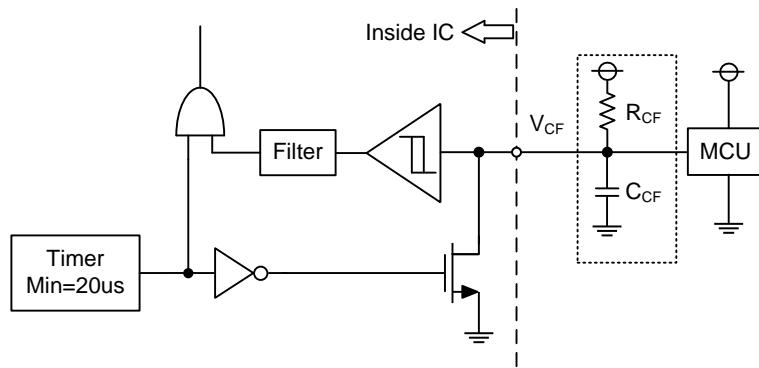

Figure 5. V_{CF} Output Circuit
- (1) If the control GND is connected with the power GND by common broad pattern, it may cause malfunction by power GND fluctuation. It is recommended to connect the control GND and power GND at a single point (N1), near the terminal of the shunt resistor.
- (2) There are two COM pins in the IPM but it is recommended to only use the (15) COM pin to minimize SC detection noise.
- (3) A zener diode D1 (24V/1W) is recommended between each pair of control supply pins to prevent surge destruction.
- (4) Prevention of surge destruction can further be improved by placing the bus capacitor as close to pin P and N1 as possible. Generally a 0.1-0.22μF snubber capacitor C3 between the P-N1 terminals is recommended.
- (5) Selection of the R1*C4 filter components for short-circuit protection is recommended to have tight tolerance, and is temperature-compensated type. The R1*C4 time constant should be set such that SC current is shut down within 2μs; (typically 1.5-2μs). R1 and C4 should be placed as close as possible to the C_{SC} pin. SC interrupting time may vary with layout patterns and components selection, therefore thorough evaluation in the system is necessary.
- (6) Tight tolerance and temperature-compensated components are also recommended when selecting the R2*C5 filter for V_{OT}. The R2*C5 time constant should be set such that V_{OT} is immune to noise. Recommended values of R2 and C5 are 2kΩ and 10nF.
- (7) To prevent malfunction, traces A, B, and C should be as short as possible.
- (8) It is recommended that all capacitors are mounted as close to the IPM as possible. (C1: electrolytic type with good temperature and frequency characteristics. C2: ceramic type with 0.1-2μF, good temperature, frequency and DC bias characteristics.)
- (9) Input drives are active-high. There is a minimum $3.5\text{k}\Omega$ pull-down resistor in the input circuit of IC. To prevent malfunction, the layout to each input should be as short as possible. When using RC coupling circuit, make sure the input signal levels meet the required turn-on and turn-off threshold voltages.
- (10) V_{CF} output is open drain type. It should be pulled up to MCU or control power supply (max= $5\pm 0.5\text{V}$), limiting the current (I_{CF}) to no more than 1mA . I_{CF} is estimated roughly by the formula of control power supply voltage divided by the pull-up resistor R3. For example, if control supply is 5V , a $10\text{k}\Omega$ (over $5\text{k}\Omega$) pull-up resistor R3 is recommended.
- (11) If only a pull-up resistor R3 of $10\text{k}\Omega$ connected to V_{CF} pin, the fault output pulse width is fixed at minimum 20us . If a capacitor C6 is connected with a pull-up resistor R3, the fault output pulse width can be controlled according to the resistor value and capacitor value. For the design guide, please refer to the Figure 5.
- (12) Direct drive of the IPM from the MCU is possible without having to use opto-coupler or isolation transformer.
- (13) The IPM may malfunction and erroneous operations may occur if high frequency noise is superimposed to the supply line. To avoid such problems, line ripple voltage is recommended to have $dV/dt \leq \pm 1\text{V}/\mu\text{s}$, and $V_{ripple} \leq 2\text{Vp-p}$.
- (14) It is not recommended to use the IPM to drive the same load in parallel with another IPM or inverter types.